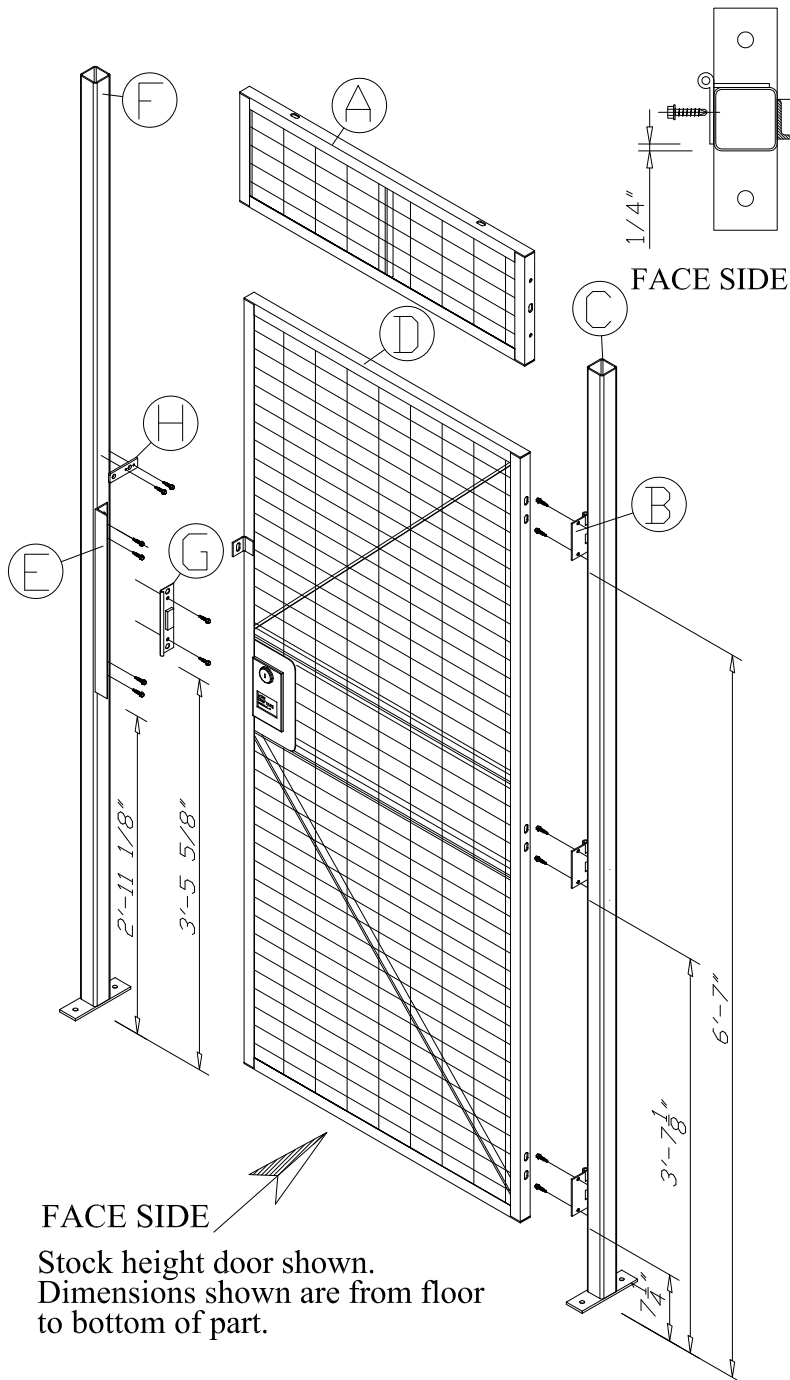
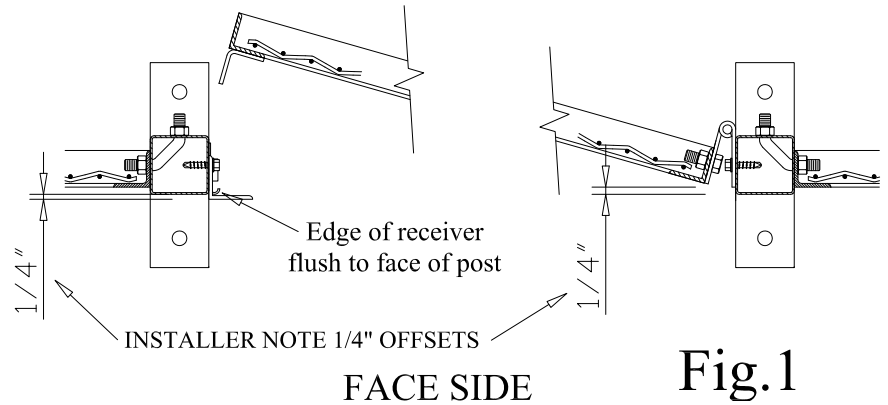

Fig.2
Fig.1
1. Install transom panel (A) at top of door opening, check opening width at floor, and anchor posts to floor. Check that posts are plumb and opening is square.
2. Attach hinges (B) to door post (C) using two self drilling screws per hinge.
- a. Note hinge placement offset detailed in Fig.1 and install tip in Fig.2.
3. Attach door panel (D) to hinges with two 3/8" x 1" bolts and nuts.
4. Attach pick plate (E) to door post (F) using four self drilling screws.
- a. Note pick plate position offset detailed in Fig 1.
6. Attach cylinder lock receiver (G) to door post (F) with two self-drilling screws.
7. Align padlock lug (H) with door padlock lug on door (D) and attach to post (F) with two self drilling screws.